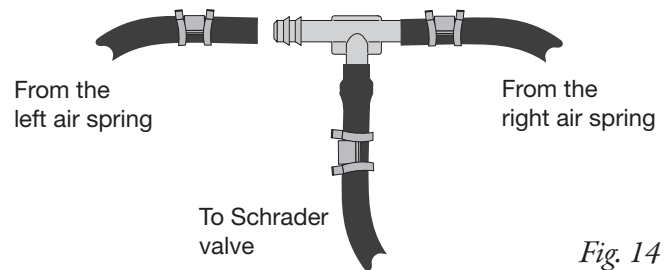

Fig. 14
4. Use this procedure (Fig. 14) for all air line connections:
- b. Push the air line and air line clamp (L) over the barbed stem so that the air line covers all the barbs.